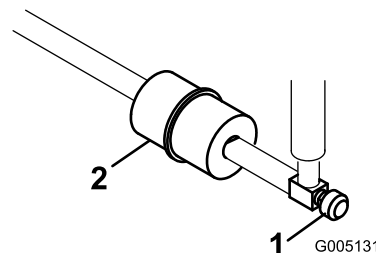

Figure 32
The in-line fuel filter is in the fuel line between the fuel tank and carburetor (Figure 32).
- Close the fuel-shutoff valve (Figure 32).
- Place a drain pan under the filter, loosen the hose clamp on the carburetor side of filter, and remove the fuel line from the filter (Figure 32).
- Loosen the other hose clamp and remove the filter (Figure 32).